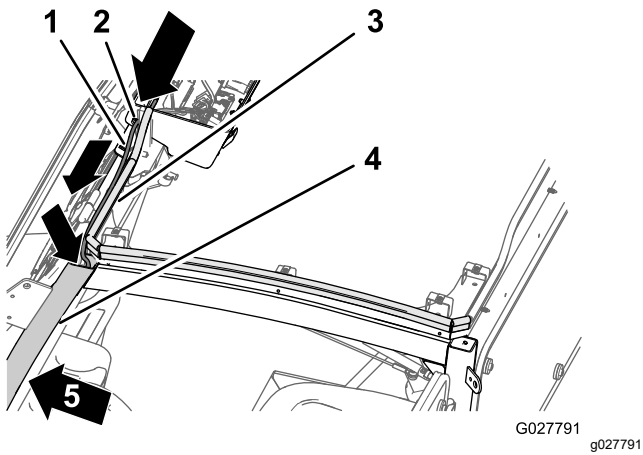
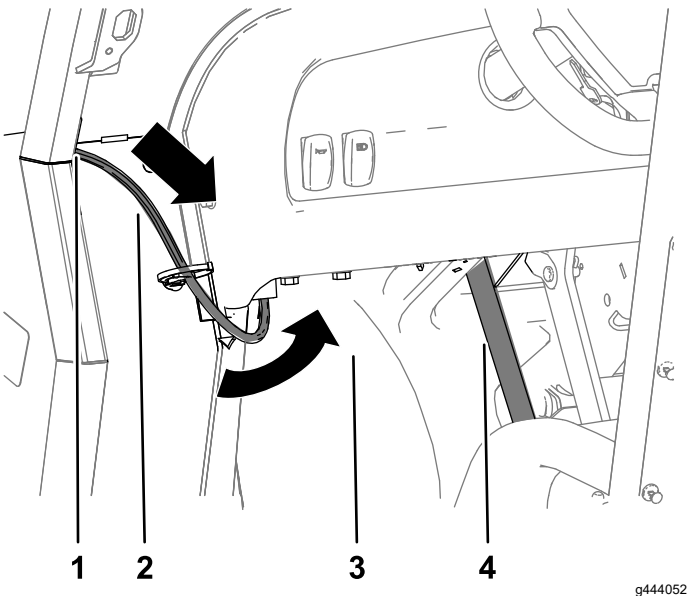
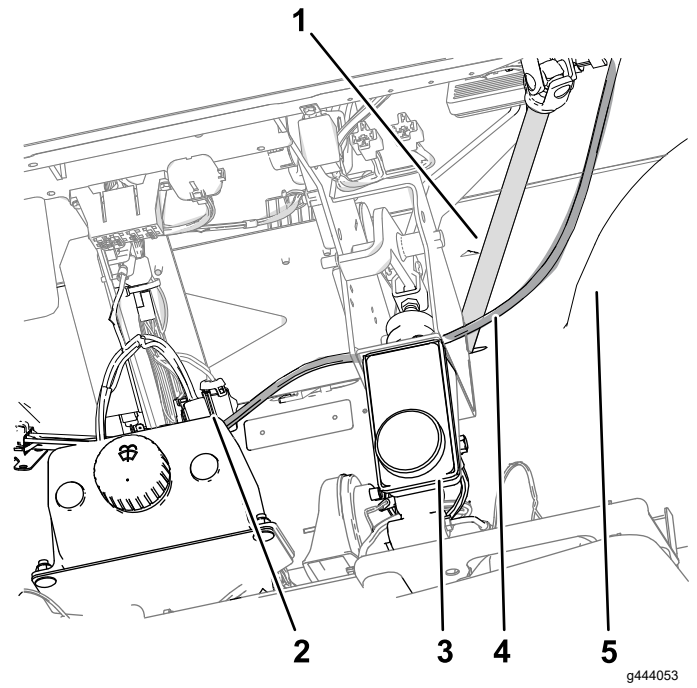

Figure 39
Figure 40
Figure 41
- Route the hose to the left of the overhead console along the bulb seal at the front of the cab frame (Figure 39).
2. Route the free end of the hose into the opening at the top of pillar A (driver's side) of the cab frame and down to the hole at the bottom of the pillar (Figure 39 and Figure 40).
3. Route the free end of the hose forward, between the fender and the steering column (Figure 40 and Figure 41).
4. Route the free end of the hose inboard toward the washer-fluid tank (Figure 41).